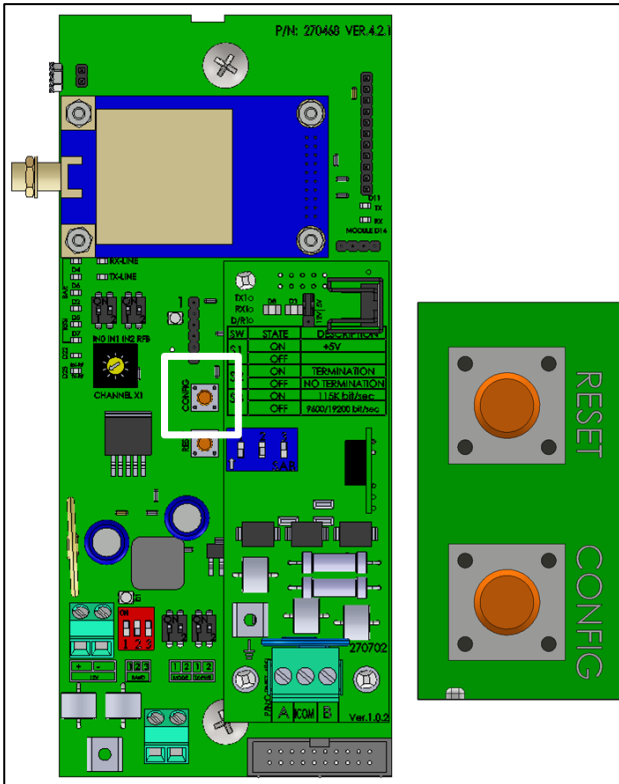

Figure 24: Configuration Button
4. Press Config for five seconds (Figure 24). This generates a test signal. The green LED begins to blink.